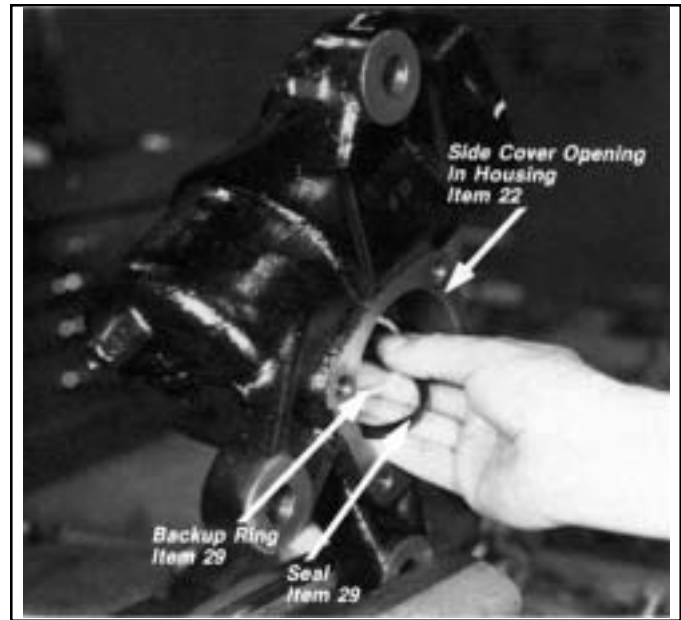

FIGURE 52 - INSTALLING STEERING LIMITING STEM
25. Install the O-ring (20) in the groove around the steering limiting stem (19) and screw the stem(19) and screw the stem (19) into the housing (22) about five or six full turns. *Figure 52*